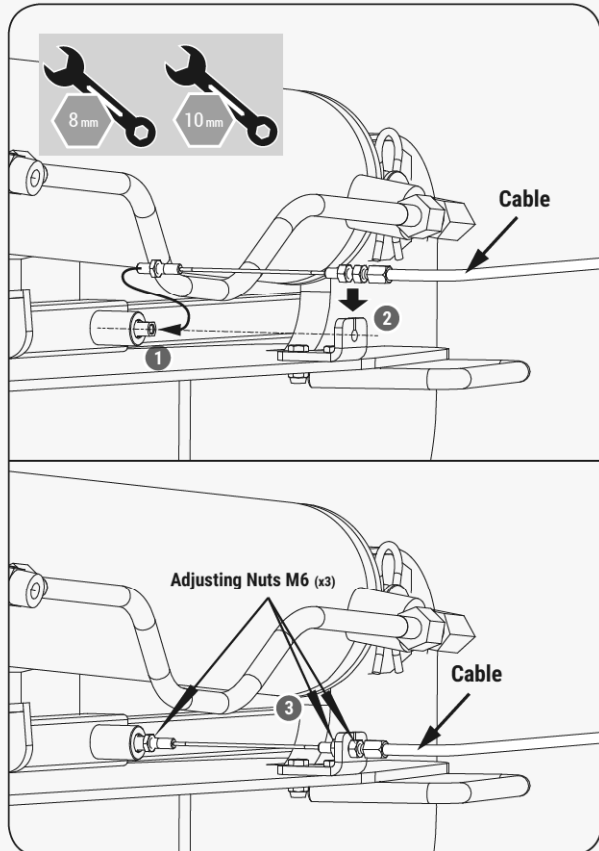

Figure 14b
2. Screw the straight end of the cable into the side spring pin hole. (See **Figure 14b, illustration 1.**) Pass the cable between the lower two adjusting nuts through the middle hole of the cable fixing plate. (See **Figure 14b, illustration 2.**) By adjusting the three adjusting nuts, make sure the cable between the side spring pin and the cable fixing plate is just straightened. (See **Figure 14b, illustration 3.**)